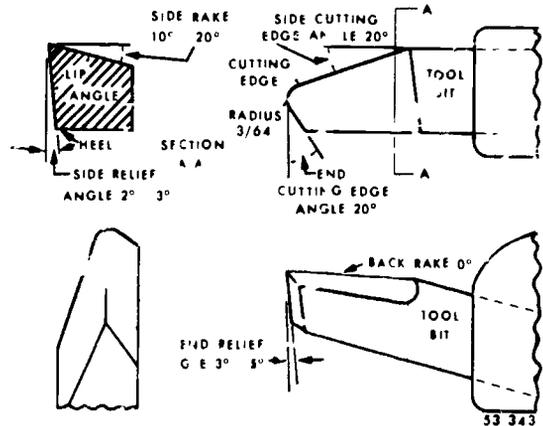
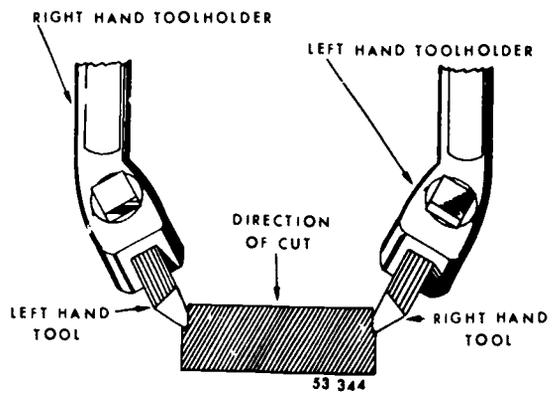

Figure 24. Roughing tool angles
Figure 25. Down cutting tools.
a. **Roughing.** The *roughing tool*, also called a *bullnose roughing tool*, is intended for heavy-duty cutting. It will withstand the pressures of heavy feeds and depths of cut. Figure 24 shows the various angles used for a left-hand roughing tool. Left- and right-hand roughing tools can be ground with a smaller nose radius and used for finishing vertical surfaces, as shown in figure 25.